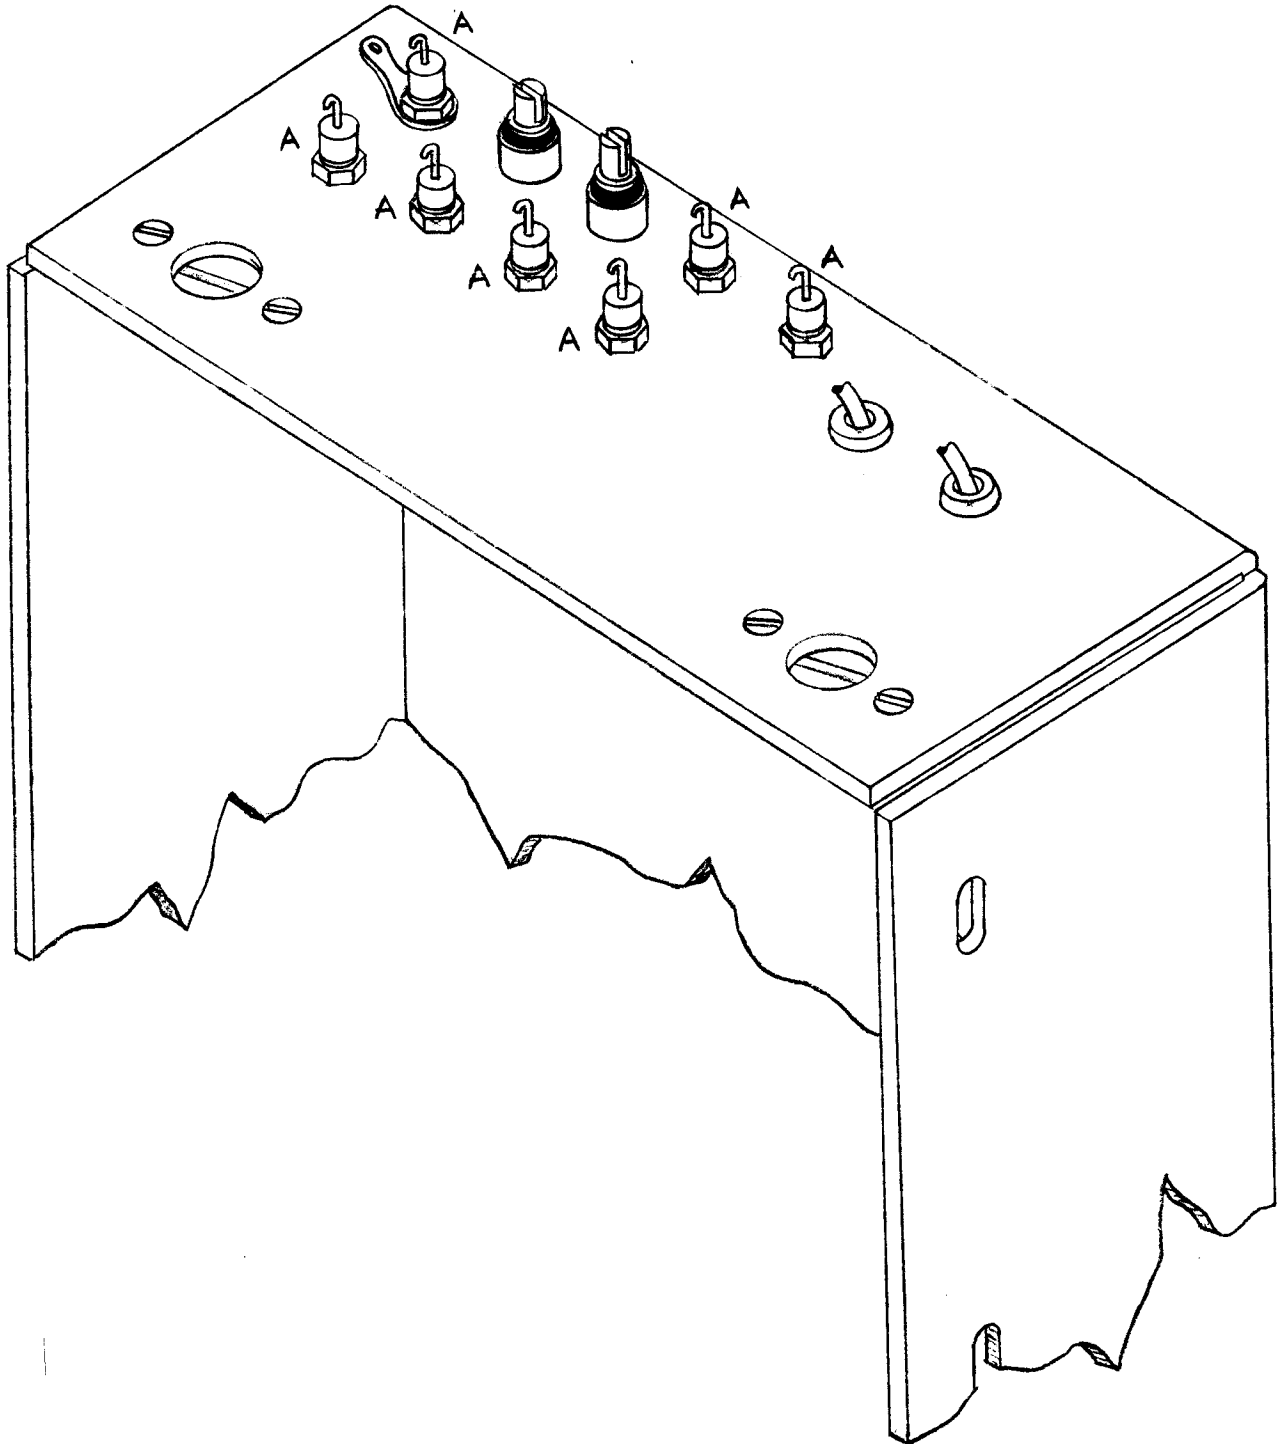

FIGURE 5
12. Remove the seven feedthru capacitors. Discard capacitors. (Figure 5).
13. Solder the wires (located inside the sideplate) to the slotted ends of the seven new feedthru bushings (item 3).